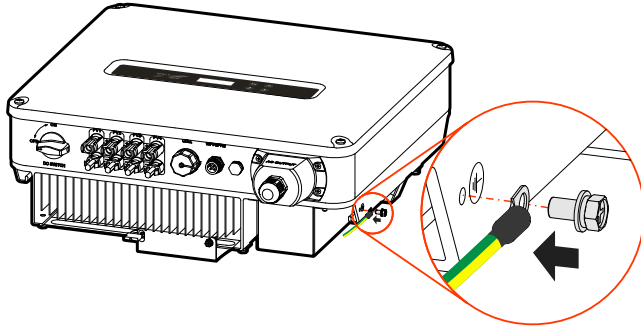

Figure3-15 External grounding wire connection
Step 2 Connect the crimped grounding wire to the external grounding terminal by stainless steel combination bolt M5\*12, as shown in Figure3-15.